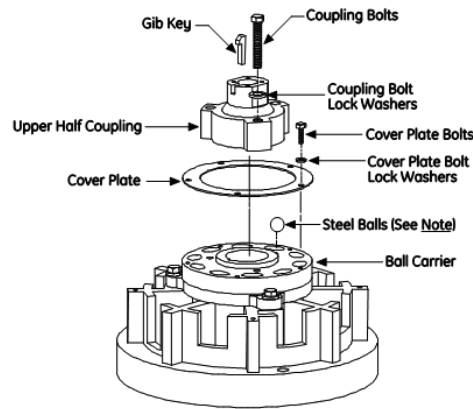

Figure 4: Bolted Operation Exploded View
2. Remove the (5) cover plate bolts and lock washers securing the cover plate to the ball carrier. Refer to Figure 4.
3. Using a magnet, remove the steel balls (10) from the angular drilled holes located on the ball carrier.
4. Reassemble the cover plate to the ball carrier. Install the (5) cover plate bolts with lock washers. Initially tighten one bolt "hand tight" and in a circular fashion, tighten the
6. Mount the upper half coupling so that it fits flush to the ball carrier. Refer to Figure 4 .
7. Install the (3) coupling bolts and lock washers as shown in Figure 4. Initially tighten one bolt "hand tight" and in a circular fashion, tighten the remaining bolts "hand tight" as well. Afterwards, tighten each bolt to the required torque value shown in the Table 4.